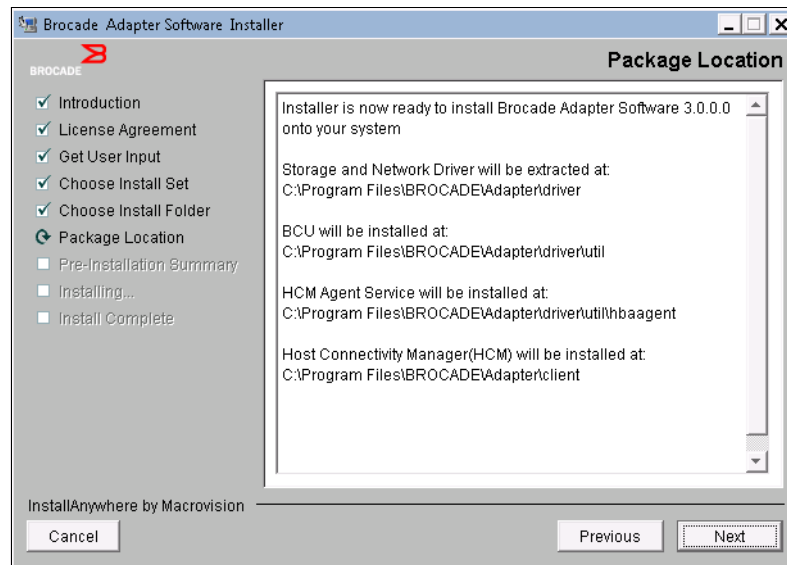

Figure 7-98 Package Location panel
6. In the Package Location panel (Figure 7-98), click **Next**.